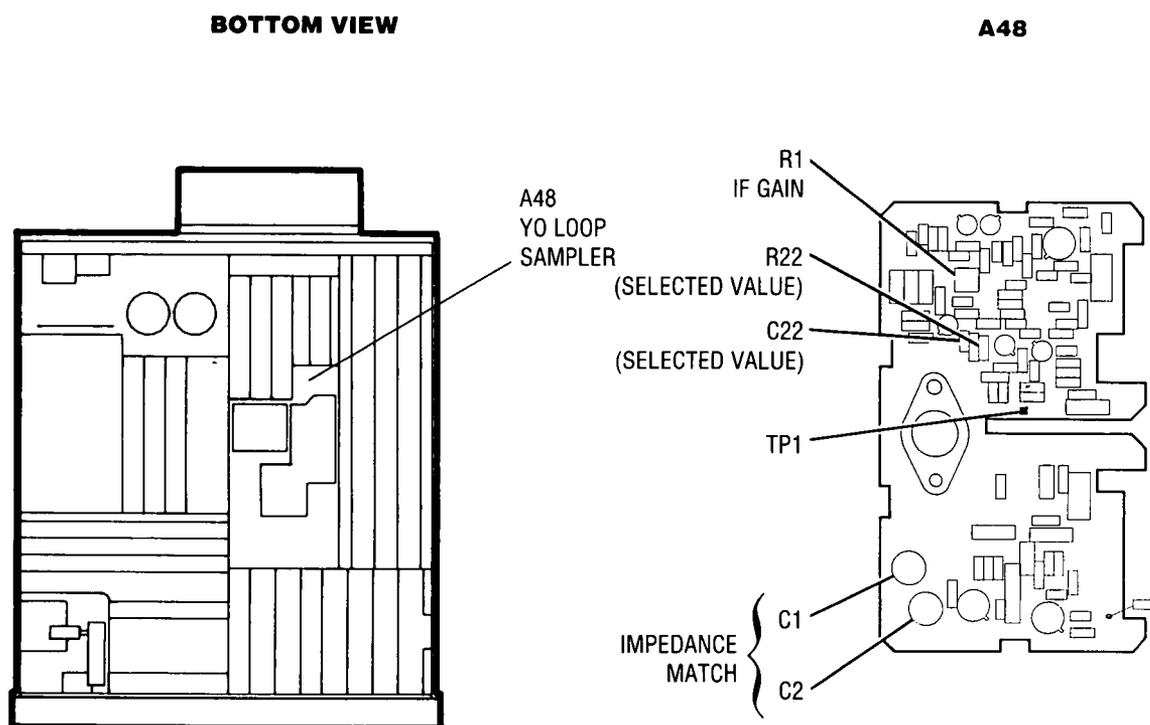
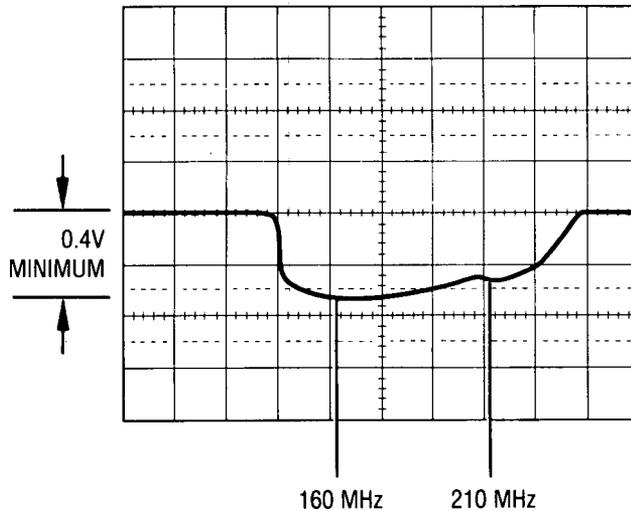

Figure 5-19. Location of YO Loop Adjustments
Figure 5-20. Typical Swept Frequency Response at A48TP1
- Adjust A48C1 and A48C2 (Figure 5-19) for a trace on the oscilloscope similar to Figure 5-20. Adjust for the flattest response from 160 MHz to 210 MHz. The amplitude of the response should be at least 0.4 Volts peak-to-peak.